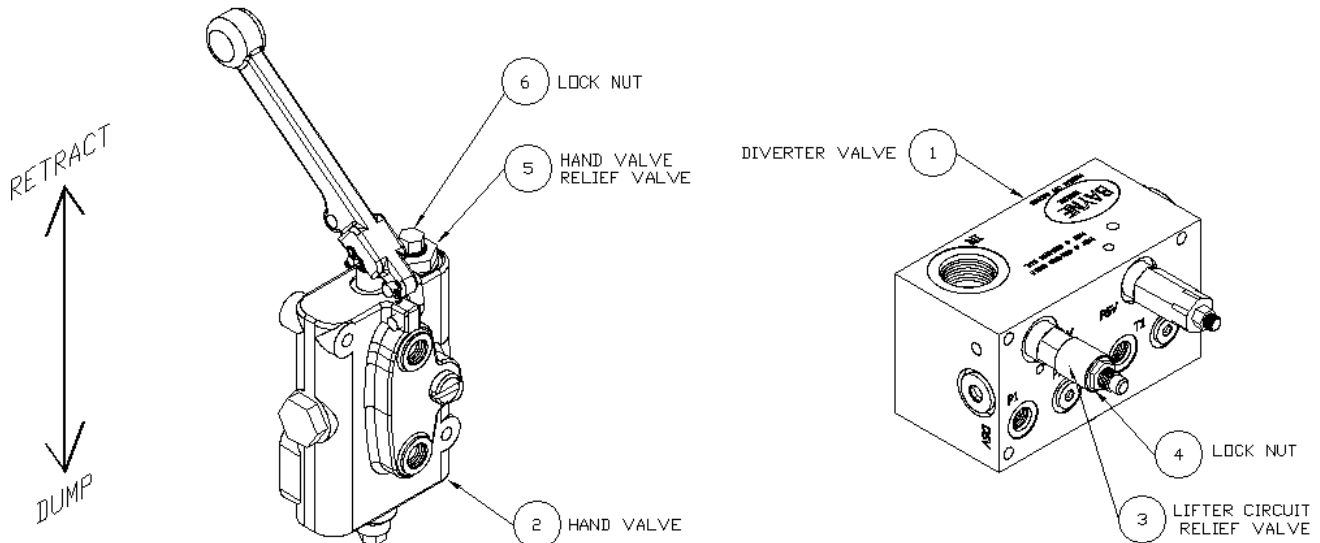
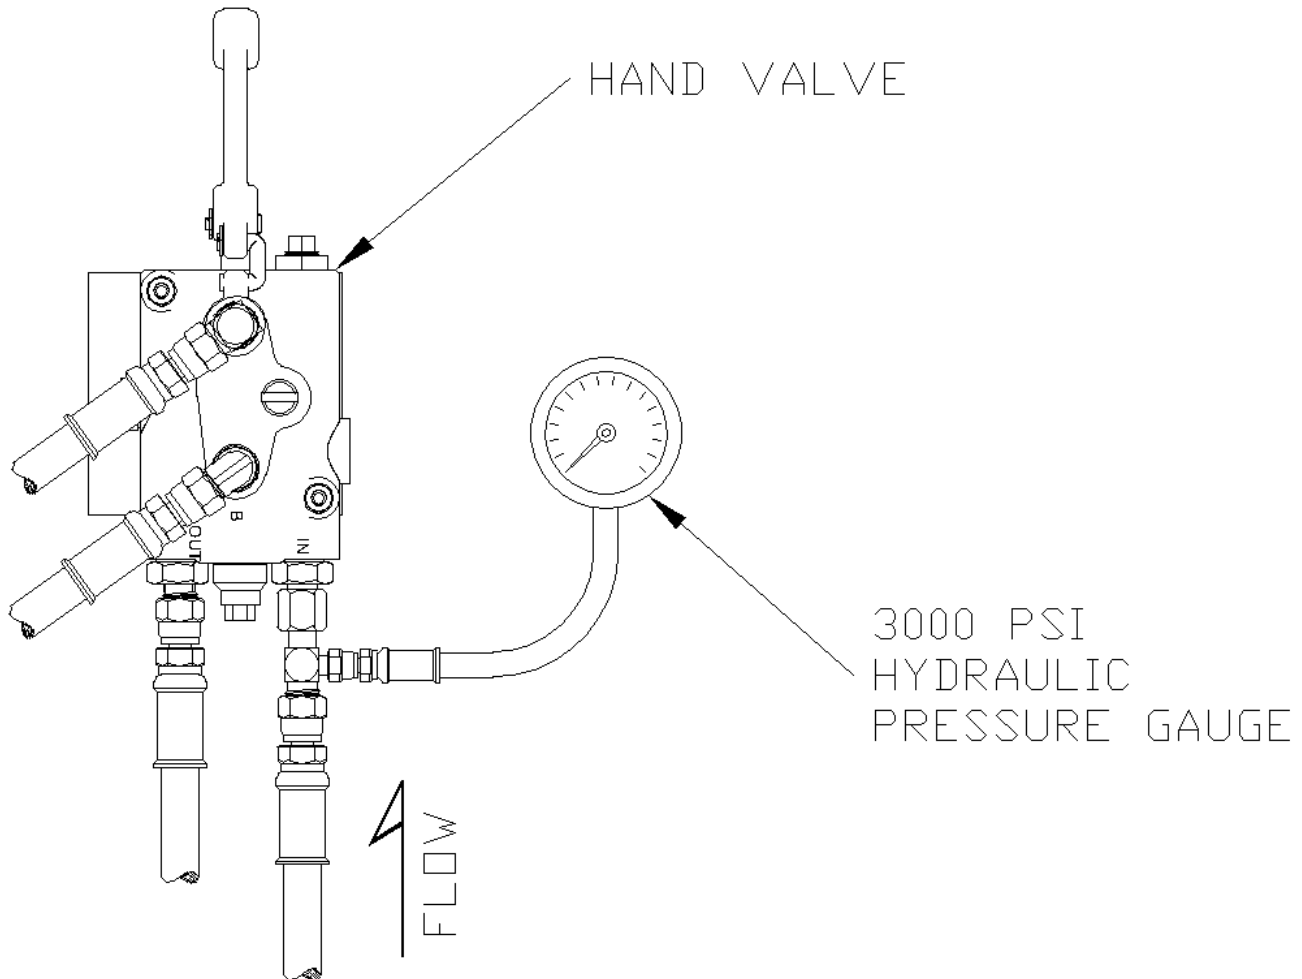

Figure A-4
Figure A-5
The diverter valve (1) (Figure A-4) supplies the cart lifter hydraulic system with approximately 2 GPM of oil flow. This diverter valve is equipped with a lifter circuit relief valve (3) set at 2300 psi, to prevent the diverter valve from shutting down if a blockage occurs in the lifter circuit. There is also a relief valve (5) set at 1800 psi in the hand valve (2) to protect the lifter from excessive pressure. These relief valves are preset from the factory to operate properly on most trucks with a system pressure between 2300 and 2500 psi without any adjustment. However, if any adjustment is necessary, follow these instructions.
2. Loosen lock nut (6) (Figure A-4) from the hand valve relief valve(s) (5) and turn the adjustment screw(s) clockwise until it bottoms out.
3. Loosen the lock nut (4) (Figure A-4) on the lifter circuit relief valve (3) and turn the adjustment screw clockwise until it bottoms out.
5. Operate the handle on the hand valve (2) (Figure A-4) back and forth a few times to bleed all air from the lifter hydraulic system.
7. Install the 3000 psi hydraulic pressure gauge with the necessary adapter in the hydraulic line connected to the "IN" port of the hand valve as shown in Figure A-5. **If installing dual lifters, install the hydraulic gauge at either one of the hand valves.**
- a. Have an assistant hold the handle on the hand valve (2) (Figure A-4) (with pressure gauge installed at the "IN" port) in the "retract" position to show pressure on the gauge.
- b. Turn the pressure relief adjusting screw on the lifter circuit relief valve (3) counter-clockwise until the pressure reading on the gauge is either 100 psi less than the truck system pressure or 2300 psi, whichever is the lowest.
- a. Hold a handle on the hand valve (2) (Figure A-4) (with pressure gauge installed at the “IN” port) in the “retract” position to show pressure on the gauge.
- b. Turn the pressure relief adjusting screw on the hand valve relief valve (5) counter-clockwise until the pressure reading on the gauge is either 200 psi less than truck system pressure or 1800 psi, whichever ever is the lowest.
- f. For dual lifters, install the hydraulic pressure gauge in the “IN” port of the other hand valve as shown in Figure A-5, start the truck’s engine, engage the hydraulic system, and repeat step 10.
11. Reinstall the cap nut(s) (6) (Figure A-4) on the hand valve relief valve(s) (5) to secure the correct pressure setting (s).
12. Tighten the lock nut (4) (Figure A-4) on the lifter circuit relief valve (3) to secure the correct pressure setting.